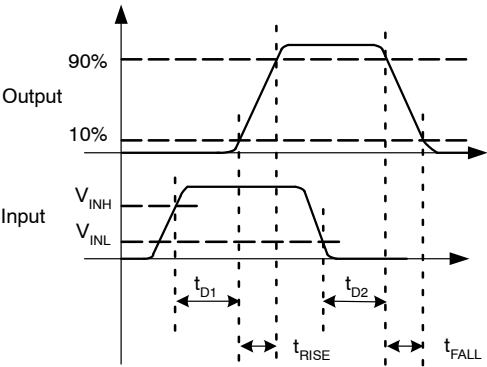
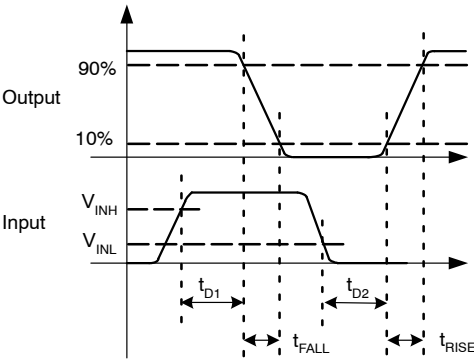

Figure 6. Non-Inverting Timing Diagram
Figure 7. Inverting Timing Diagram
9. See Timing Diagrams of Figure 6 and Figure 7.
10. For any inverting inputs pulled low, non-inverting inputs pulled high, or outputs driven high, static I_{DD} increases by the current flowing through the corresponding pull-up/down resistor shown in Figure 6 and Figure 7.
In the I_{DD} (static) typical performance characteristics shown in Figure 8 and Figure 9, each curve is produced with both inputs floating and both outputs LOW to indicate the lowest static I_{DD} current. For other states, additional current flows through the 100 k Ω resistors on the inputs and outputs shown in the block diagram of each part (see Figure 6 and Figure 7). In these cases, the actual static I_{DD} current is the value obtained from the curves plus this additional current.